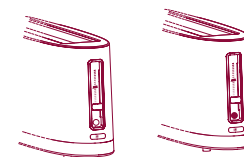

Fig. 8
- 4 Push the DEFROST button ❄️: the light will turn on (fig. 8).